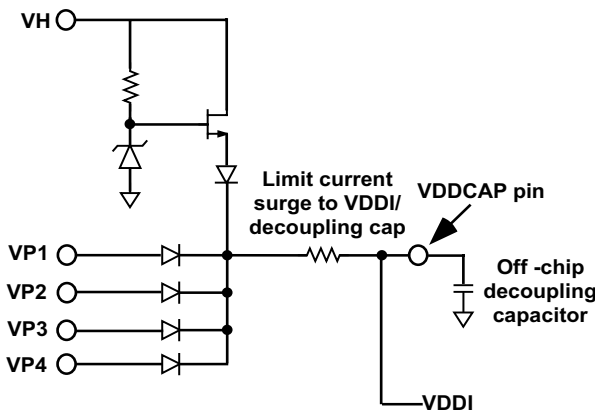

Figure 1. VDD Arbitrator Operation
The ADM1060 is powered from the highest voltage input on either the Positive Only supply inputs (VPn) or the High Voltage supply input (VH). The same pins are used for supply fault detection (discussed below). A V_{DD} Arbitrator on the device chooses which supply to use. The arbitrator can be considered to be diode OR'ing the positive supplies together (as shown in figure 1). In addition to this, the diodes are supplemented with switches in a synchronous rectifier manner, to minimise voltage loss. This loss can be reduced to ~0.2V, resulting in the ability to power the ADM1060 from a supply as low as 3.0V. Note that the supply on the VBn pins cannot be used to power the device, even if the input on these pins is positive. Also, the minimum supply of 3.0V must appear on one of the VPn pins in order to power up the ADM1060 correctly. A supply of no less than 4.5V can be used on VH. This is because there is no synchronous rectifier circuit on the VH pin, resulting in a voltage drop of ~1.5V across the diode of the V_{DD} Arbitrator.
An external cap to GND is required to decouple the on-chip supply from noise. This cap should be connected to the VDDCAP pin, as shown in figure 1. The cap has another use during "brown outs" (momentary loss of power). Under these conditions, where the input supply, VPn, dips transiently below V_{DD}, the synchronous rectifier switch immediately turns off so that it doesn't pull V_{DD} down. The V_{DD} cap can then act like a reservoir and keep the chip active until the next highest supply takes over the powering of the device. 0.1µF is recommended for this function.
The OV and UV comparators, shown in figure 1, are always looking at VPn via a potential divider. In order to avoid chattering (multiple transitions when the input is very close to the threshold level set), these comparators have digitally programmable hysteresis. The UV and OV hysteresis can be programmed in two registers which are similar but separate to the UV or OV threshold registers. Only the 5 LSB's of these registers can be set. The hysteresis is added after the supply voltage goes out of tolerance. Thus, the user can determine how much above the UV threshold the input must rise again before a UV fault is de-asserted. Similarly, the user can determine how much below the OV threshold the input must fall again before an OV fault is de-asserted. The hysteresis figure is given by:-